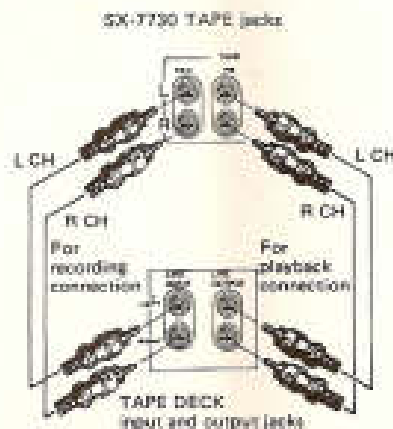

Fig. 8 - Connecting the SX-7730 to tape deck.
- Connect the Receiver TAPE 1 REC output jacks to the tape deck recording input jacks (LINE INPUT), as shown in Fig. 8. The upper jack is for the left (L) channel and the lower for the right (R) channel.